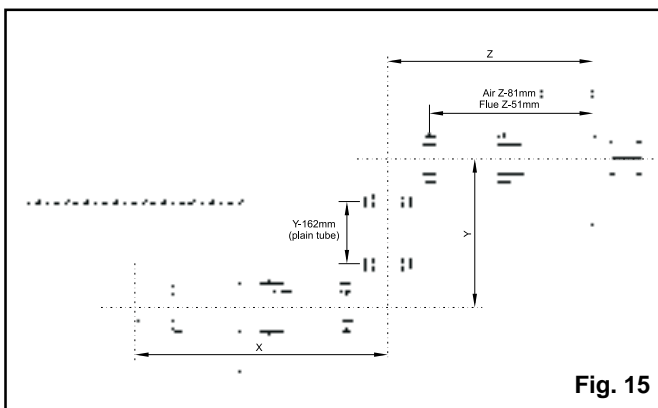

Fig. 15
1) Should L = 500 to 600mm then cut the terminal assembly ducts reducing the length of the ducts to 200mm. Then cut each extension to 200mm (see fig 15). Assemble the flue as described below ensuring the correct length (L + 70 mm for RH side flues, L + 250 mm for LH side flues, or L+ 155 mm for rear flues).
See Figs. 15 and 16.
Rear flue duct length =  $X + 155$  mm. See Fig. 15.
Cut the flue and air ducts which are to make up the first section X such that both the assemblies are of equal length (either  $X + 70$  mm,  $X + 250$  mm or  $X + 155$  mm). Extensions will be necessary to allow X to be larger than 250 mm. Any extension ducts are fixed by drilling a pilot hole through the hole in the duct or elbow and screwing the self tapping screw provided into the two ducts. (See Fig. 15). The length Y is the distance between bends the ducts must be cut to  $Y - 162$  mm. The swaged ends must be removed from the extension tube and only the air duct needs fixing. See Fig. 15. Z is the final flue length from the last elbow to the outside face of the external wall. The first duct sections fitted to the elbow must have unswaged ends. The length of the air ducts should be  $Z - 196$  mm. The inner flue duct must be 30 mm longer than the air duct. If  $Z - 196$  mm is less than 160 mm then the terminal section will need to be shortened to the same length as the extension flue section fitted to the elbow (length  $Z - 100$ ). If flue extensions are needed to attain the required length care must be taken to ensure that the last section of flue is longer than 260 mm.
Each extension must be connected to the previous section of flue or bend by firstly fitting the inner flue ducts together and pilot drilling and fixing as above (See Fig. 15). Then the outer air ducts can be similarly fixed using a pair of screws provided. The flue terminal section can then be telescopically adjusted and fixed as before (See Fig. 15), ensuring the correct length of  $Z - 41$ . The silicon sealant supplied should be applied to the flue ducts which engage into elbows. See Fig. 15.